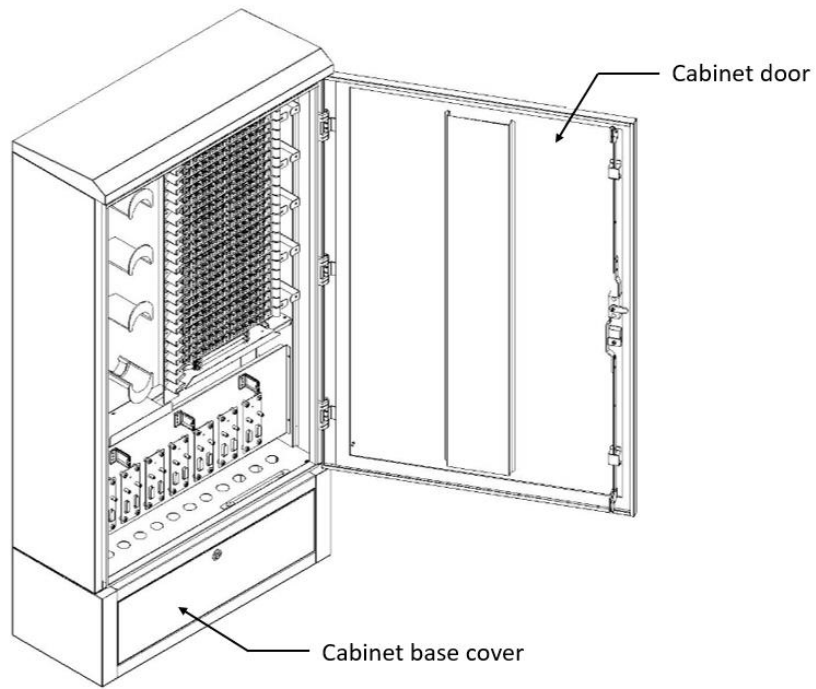

Fig 1
- Open the cabinet base cover, fix the cabinet on the Cement base. (Fig 1)